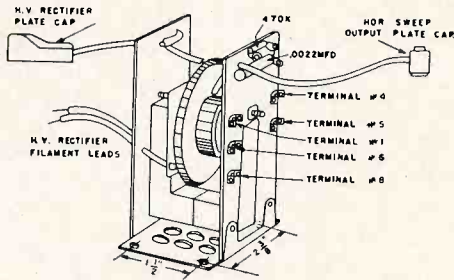

Fig. 1. RTO-071 transformer used in General Electric Models 810, 811, and 835.
tional components, except transformers or tube, which are required to make the conversions. Fig. 1 is a sketch of the RTO-071 transformer.
1. Disconnect leads of defective sweep output transformer, including filament loop for 1B3GT tube. Notice that R67, R62, and C103 are removed with it. Mount new transformer on chassis. See Fig. 1 for lead identity to effect most satisfactory placement of